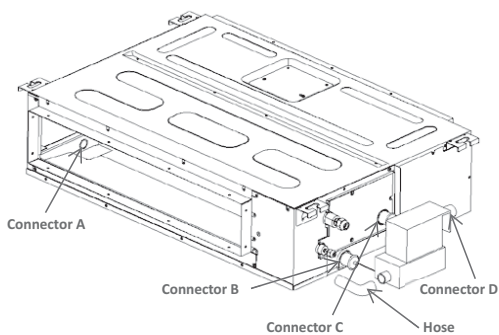

Fig. 20 – Condensate lift pump installation size 18
- c. Connect the drainpipe to the connector D (see Fig. 20).